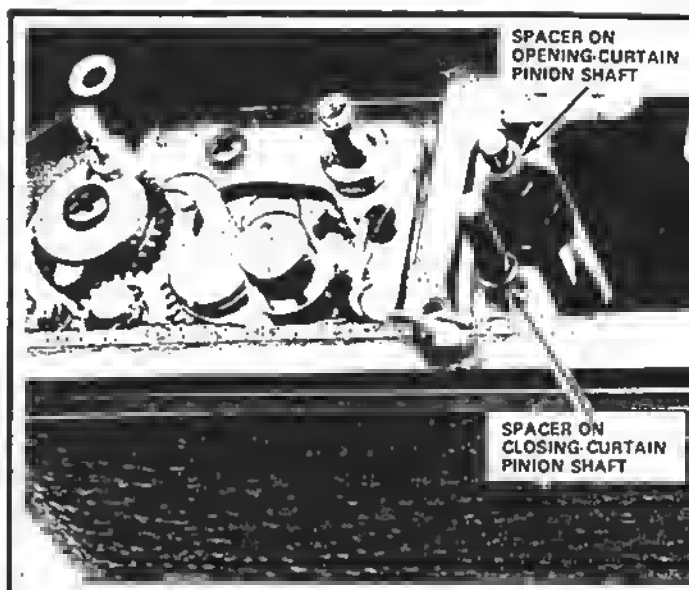

Figure 170
**CAUTION:** Be careful that you don't turn over the camera after removing the winding-rollers support plate -- there are loose spacers on the ends of the pinion shafts, Fig. 170. There may also be loose end-play washers.
Lift the spacer from the opening-curtain pinion shaft, Fig. 170; again, watch for endplay washers which may or may not be present in your camera. Then, lift the spacer from the closing-curtain pinion shaft. Notice that the spacer for the opening-curtain pinion shaft is longer than is the spacer for the closing-curtain pinion shaft.